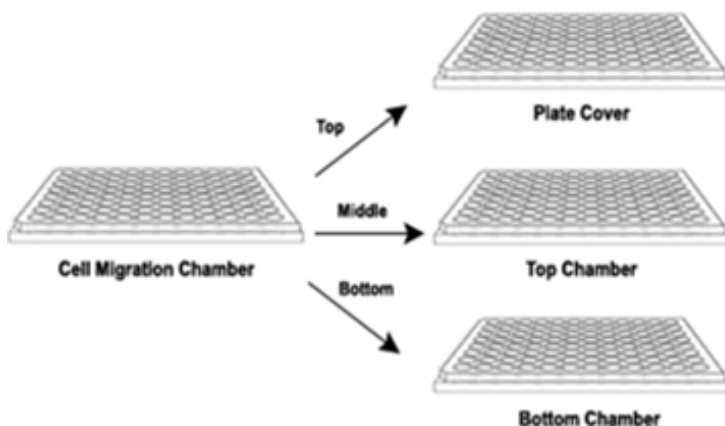

Figure 1. Cell Invasion plate: The cells are added to the Top Chamber and the Control Invasion Inducer or chemoattractant are added to the Bottom Chamber.
6. Under sterile conditions, disassemble the Cell Migration Chamber, 96-Well (8 μ m) (Figure 1) and carefully remove the plate cover and the top chamber.